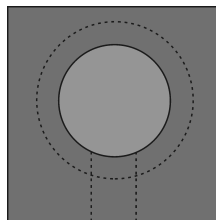

Figure 3. Solder-Mask-Defined Pad Layout on PCB
2. Solder mask defined (individual pad locations are available with mask separating adjacent pad locations). Refer to Figure 3.